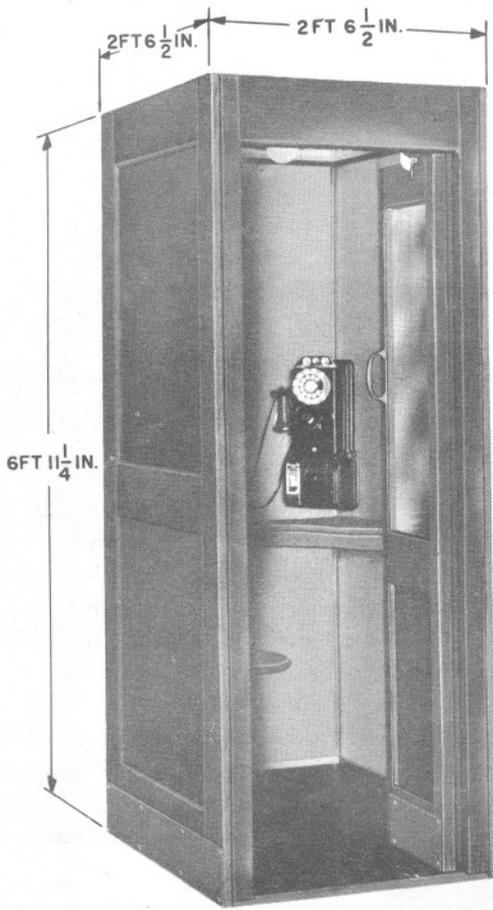

Fig. 1 - 6-type Booth
3.01 Structurally, the 5- and 6-type booths are similar except that the 6-type is equipped with a seat (see Fig. 1). The shelf and backboard, therefore, are mounted lower in the 6-type than they are in the 5-type booth.